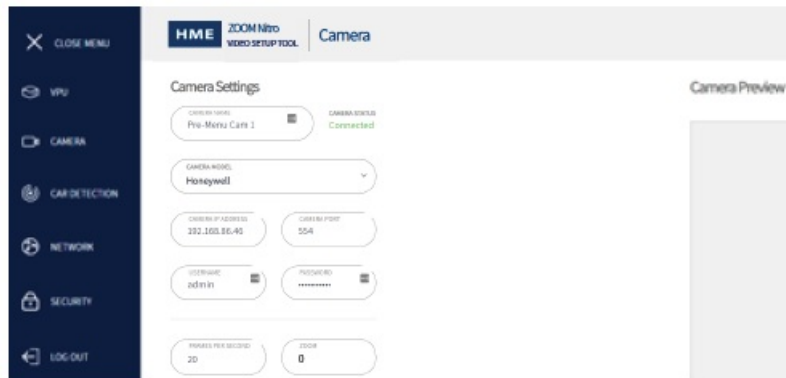

Fig. 4.1
- Go to the CAMERA Page, the system will display the Camera Settings as shown in Fig. 4.1, verify or set the following fields to match the content in Table 4.1 under Value/Description. Do not change any values except Camera Name unless the camera is not au-to-detected.